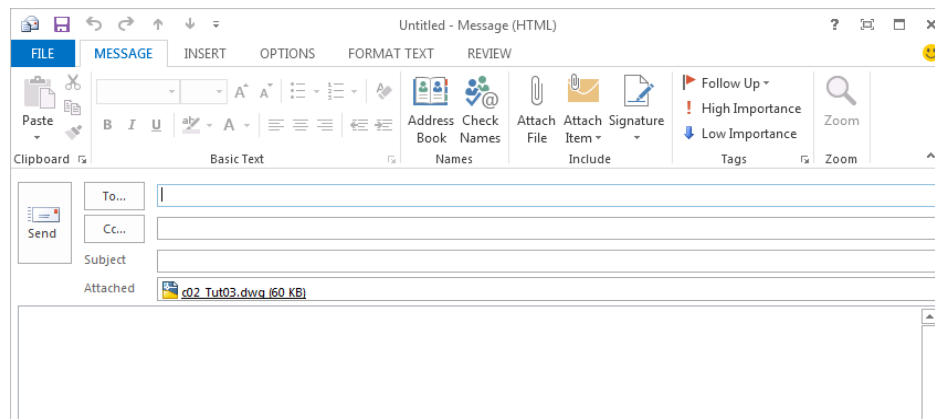

*Figure 2-30 Partial view of the **Create Transmittal** dialog box with files available for transmittal*
2. Choose the **Yes** button in this message box; the **Create Transmittal** dialog box is displayed, as shown in Figure 2-30.